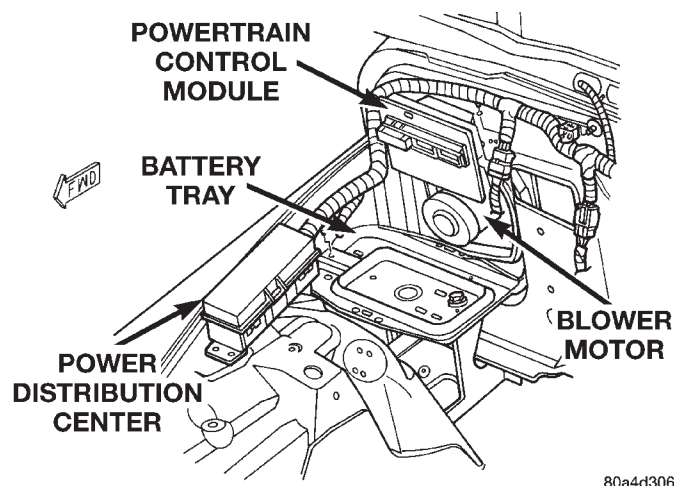

Fig. 35 Powertrain Control Module (PCM) Remove/Install
(1) Remove the battery from the battery tray. Refer to Group 8A - Battery for the procedures.
(2) Remove the three screws that secure the Powertrain Control Module (PCM) to the mounting bracket on the engine compartment side of the dash panel. Move the PCM away from the blower motor opening in the dash panel (Fig. 35).